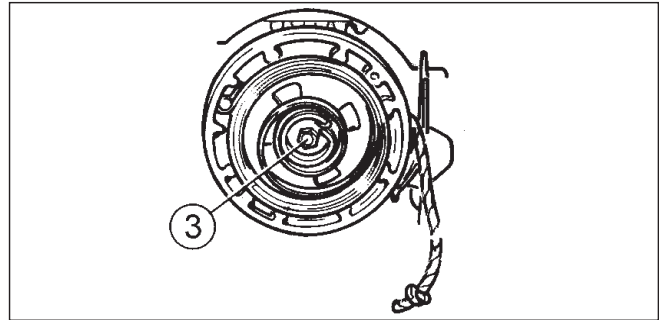

Fig. 14
- Refit gear (7) on pulley (6).
- Wind the rope onto the pulley and fit the gear and pulley assy onto the bracket pin (11).
- Secure the assy with spring hub (4) and screw (3) (Fig 14).
NOTE - Originally the screw (3) (Fig 14,3) had a right hand thread. Late type left hand thread which is indicated by 'S' stamped on head.